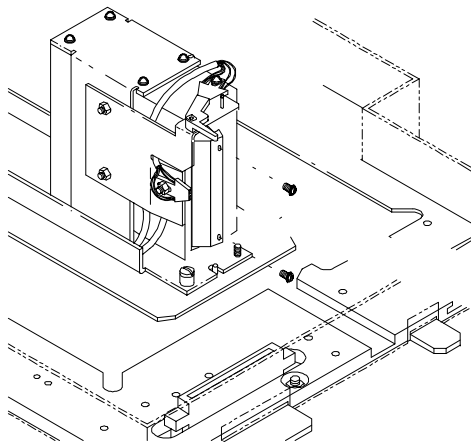

Figure 5-27. ABC Reader Prism Mounting
(See Figure 5-27.)
3. Place the prism lens onto the red, flat plastic window as shown in Figure 5-27 and align the two screws with the holes in the frame.
5. Remove the two screws holding the prism in place. Be careful not to scratch the prism or touch the prism surface. See Figure 5-27.